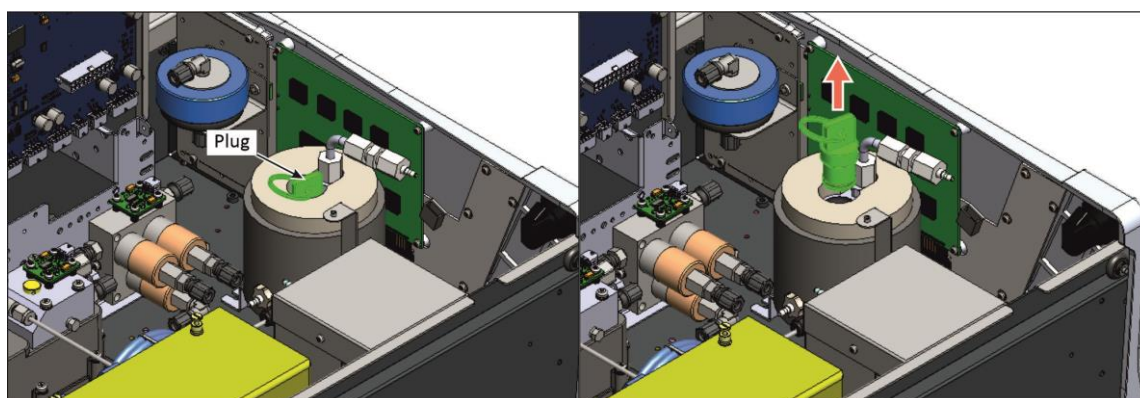

Figure 161 – Permeation Tube Removal
2. Unscrew the white Teflon plug on top of the permeation oven and then pull the split ring to fully remove the plug (refer to Figure 161).